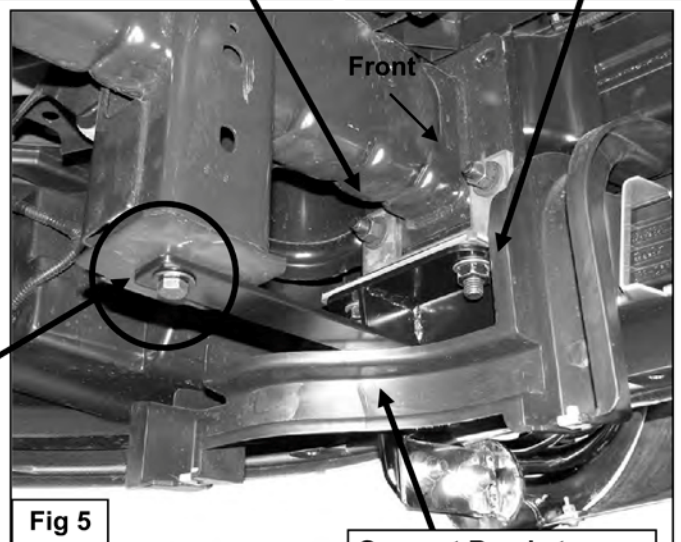

Fig 5
- c. Insert the Mounting Bracket assembly up from behind the bumper. Line up the holes in the Mounting Bracket with the (2) bumper bolts. Attach the Bracket assembly to the bumper bolts with the (2) factory hex nuts. Snug but do not fully tighten the hardware, **(Figure 5)**.
- e. Attach the inner end of the Support Bracket to the frame with (1) 12-1.5mm x 30mm **Special Fine Thread** Hex Bolt, (1) 12mm Lock Washer and (1) 12mm Flat Washer, **(Figure 5)**. **IMPORTANT:** The hole in the bottom of the frame is **fine thread**. Only use the 12-1.5mm x 30mm Fine Thread Hex Bolt provided in the hardware kit. Snug but do not tighten all hardware at this time.